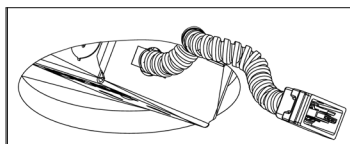

Figure 3
**Step 3.** Slide wiring compartment through ceiling cutout (Fig 3). Make sure to leave flexible conduit with connector accessible.